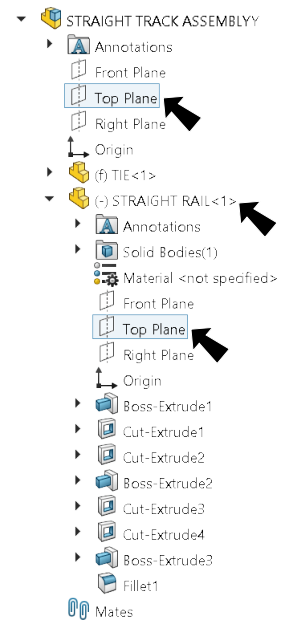

Fig. 6
Step 3. Expand the flyout Feature Manager design tree, expand **Rail** and click **Top Plane** , **Fig. 6**.